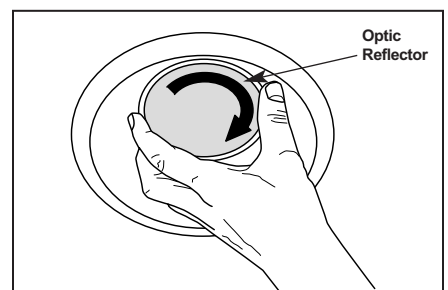

Figure 10
Step 2. Locate the OPTIC REFLECTOR that was packaged with the remodel housing and take note of the flange details at the top of the part. Install the OPTIC REFLECTOR by aligning and inserting it into the fixture and rotating it 1/4 turn clockwise until it stops (Figure 10).
Step 1. Locate the OPTIC REFLECTOR that was packaged with the remodel housing and take note of the flange details at the top of the part. Install the OPTIC REFLECTOR by aligning and inserting it into the fixture and rotating it 1/4 turn clockwise until it stops (Figure 10).